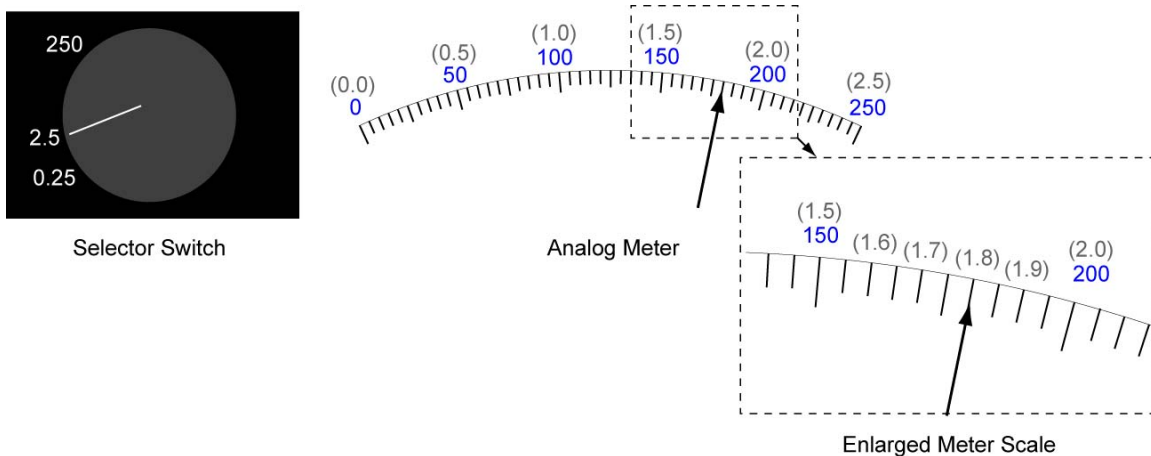

Figure 6: Reading Analog Meter Example 2
- Analog Example 2: In Figure 6, the selector switch is set to 2.5, so full scale is now 2.5, not 250. The revised grey scale values in parenthesis are added mentally. The enlarged insert demonstrates the grey values that are also mentally added between (1.5) and (2.0) to arrive at the reading of 1.8.